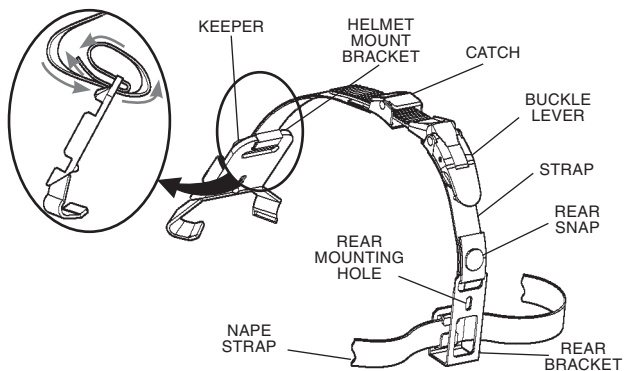
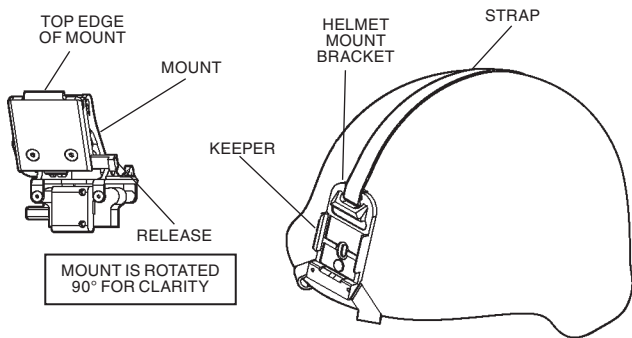

FIGURE 2.4. INSTALLATION OF HELMET MOUNT
FIGURE 2.5. HELMET MOUNT
- (1) Prior to donning the headmount, loosen the four ends of the chinstrap approximately two inches from the sliding bar buckles (Figure 2.4.).
- (1) Remove the helmet mount from the carrying case. Refer to Figure 2.4. for helmet mount features.
- (2) Press the release (Figure 2.5.) to remove the mount from the helmet mount bracket.
- (3) Make sure the strap is laced onto the helmet mount bracket as shown in Figure 2.4.
- (4) With catch (see Figure 2.4.) in forward most position, place the strap over the top of the helmet center (see Figure 2.5.).
- (5) Hook the rear bracket (see Figure 2.5.) on the center of the back of the helmet and lay the strap with helmet mount bracket over the top of the helmet.